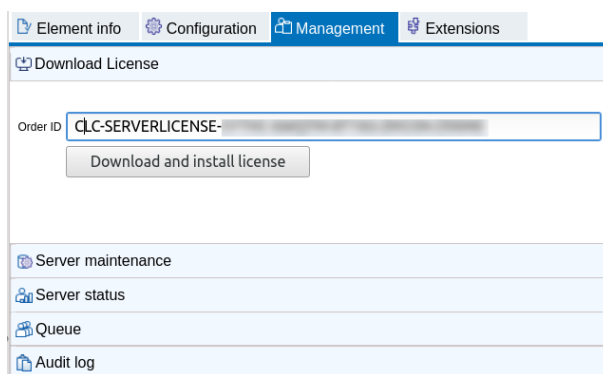

Figure 12.1: License management is done under the Management tab.
CLC Server status and management functionality is provided under the **Management** (📁) tab (figure 12.1). This chapter describes functionality for downloading licenses, putting the server into maintenance mode, stopping and restarting the server, and related activities.
- Enter the Order ID supplied by QIAGEN into the Order ID field and click on the "Download and Install License..." button (figure 12.1).